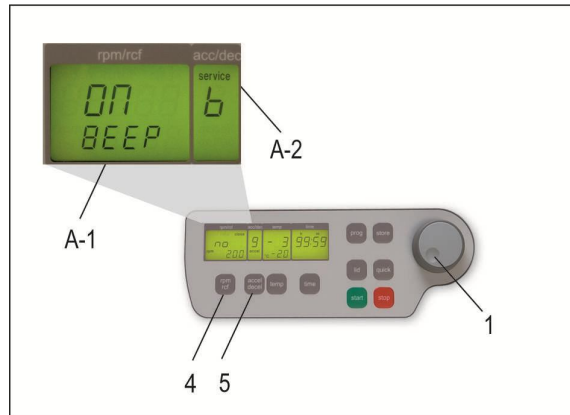

Figure 8
Proceed as described under point 1.8.1 to enter this program mode and then press the key „accel/decel“ (5). In the display „accel/decel“ (A-2) flashes the word „service“. Now select the letter „b“ with the adjusting knob (1). As a result appears in the display „rpm/rcf“ (A-1) the word „ON/BEEP“. After pressing the key „rpm/rcf“ (4), you can turn the keyboard sound (On) or (Off) with the adjusting knob (1). (see figure 8).